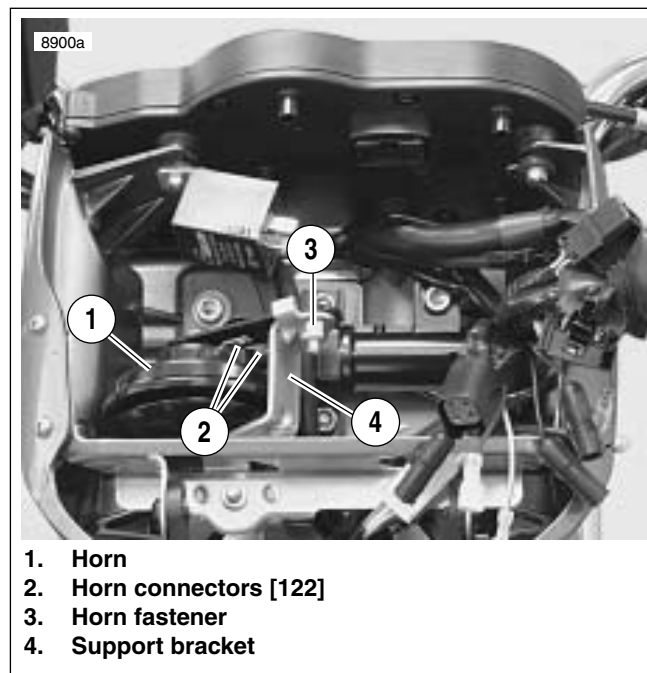
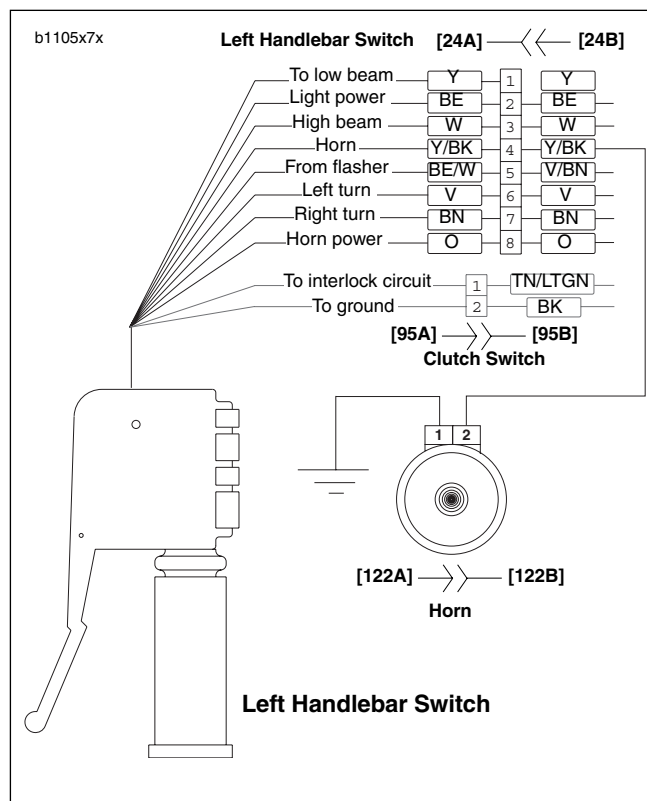

Figure 7-72. Horn Assembly
Figure 7-73. Horn Wiring
4. See Figure 7-72. Remove fastener (3).
5. Remove horn (1) from fairing support bracket (4).
6. See Figure 7-73. Detach Y/BK power wire and BK ground wire from terminal clips on horn.
1. See Figure 7-73. Connect Y/BK power wire and BK ground wire to terminal clips on horn.
2. See Figure 7-72. Attach horn (1) to fairing support bracket (4) using fastener (3). Tighten to 72-96 **in-lbs** (8.1-10.8 Nm).
- a. See Figure 7-73. Remove Y/BK power and BK ground wires from terminal clips.